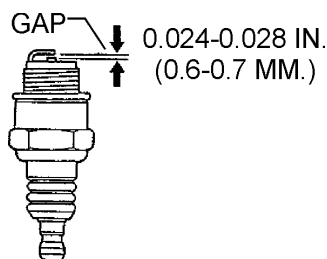

Figure 25. Spark Plug Gap
- Remove and clean the spark plug (Figure 25), then adjust the spark gap to 0.024 ~0.028 inch (0.6~0.7 mm). This unit has electronic ignition, which requires no adjustments.